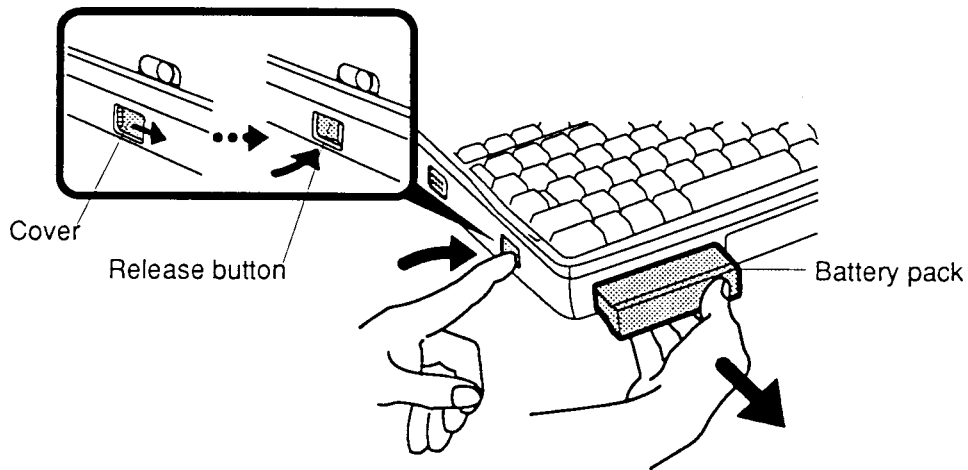

Figure 4-1 Removing the battery pack
To remove the T4700CS/T4700CT/T4800CT battery pack, follow the steps below and refer to figure 4-1.
3. Slide open the **cover** to the battery latch and press the **release button** until it clicks. The battery will pop out slightly (figure 4-1).
4. Firmly grasp the **battery pack** and pull it out (figure 4-1).
To install the T4700CS/T4700CT/T4800CT battery pack, follow the steps below and refer to figure 4-1:
2. Push the **battery pack** in until it locks into place (figure 4-1).